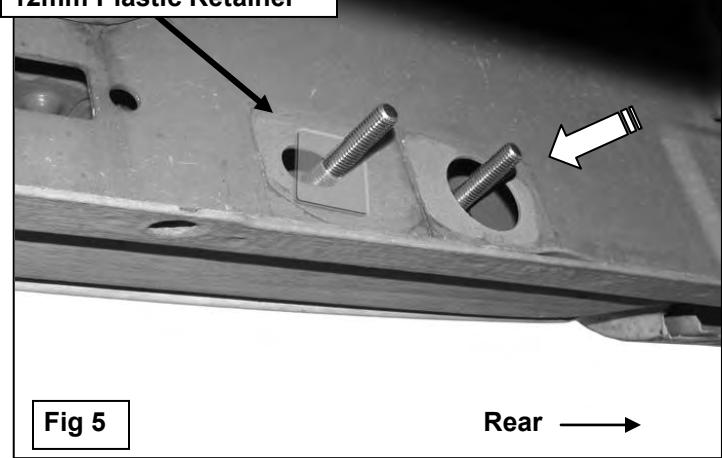

Fig 5
Insert the Bolt Plate into the larger round opening and out the smaller oval hole. Next, thread (1) 12mm Plastic Retainer onto the threaded end so that the Retainer covers the smaller oval hole, (**Figure 5**).